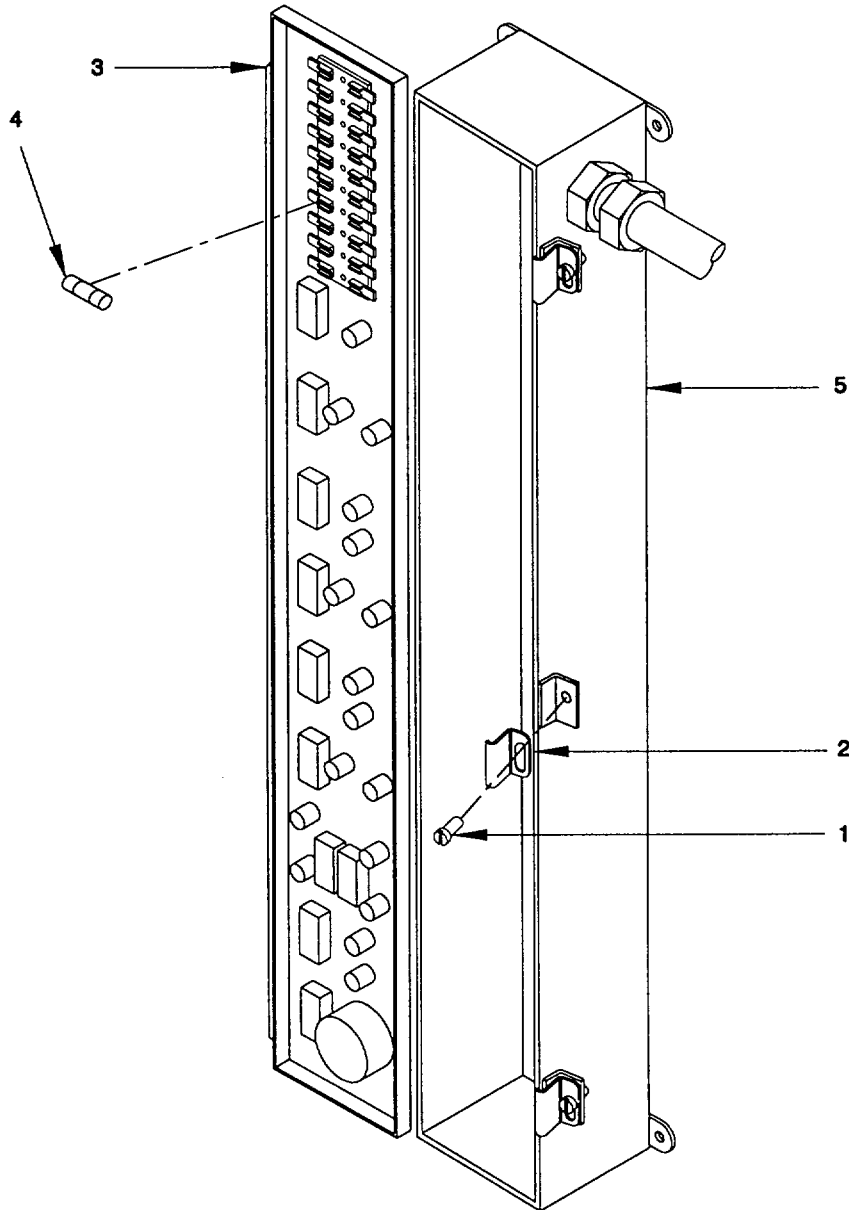

Figure 2-156. Fuses, Mast Enclosure, Remove/Install.
a. *Remove.* (figure 2-156)
- (1) Remove three screws (1) and three clamps (2) securing door (3) to mast enclosure (5).
- (2) Open enclosure door to access interior of mast enclosure (5).
- (2) Remove fuse (4) to be replaced.
b. *Install.* (figure 2-156)
- (1) Insert a replacement fuse (4) of the proper amperage and voltage (per Appendix G). Use tie wraps to secure any loose wires.
- (2) Close mast enclosure door (3) and secure with three clamps (2) and three screws (1).